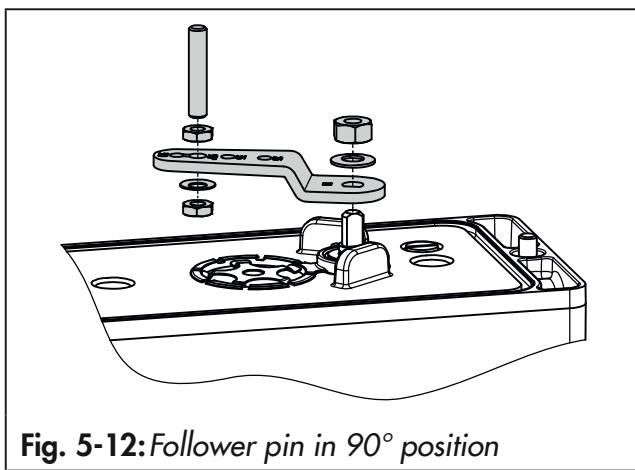

Fig. 5-12: Follower pin in 90° position
4. Insert and fasten the follower pin in the 90° position on the positioner's lever (see Fig. 5-12).
5. Align the positioner on the adapter bracket (1) in such a way that the follower pin engages into the actuator's follower wheel (3).
6. Fasten the positioner onto the adapter bracket (4) using the fastening screws (6).
7. Mount the Type 3710 Reversing Amplifier (7) together with the two guide bushings (8) and terminal plate (9) onto the adapter bracket using the associated fastening screws (10).